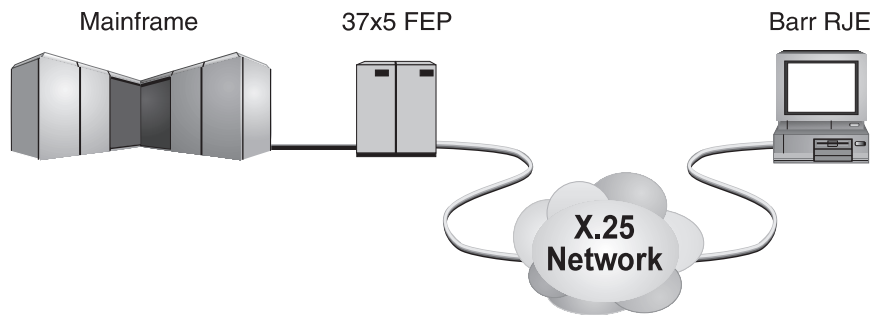

Figure 2-1. PCs running Barr software connect to the X.25 network with an X.25 interface.
- The X.25 standard is defined by the International Telegraph and Telephone Consultative Committee (CCITT). As shown in Figure 2-1, the X.25 network is usually shown as a cloud, which illustrates that you only need to consider the interface to the cloud to connect terminals to it.